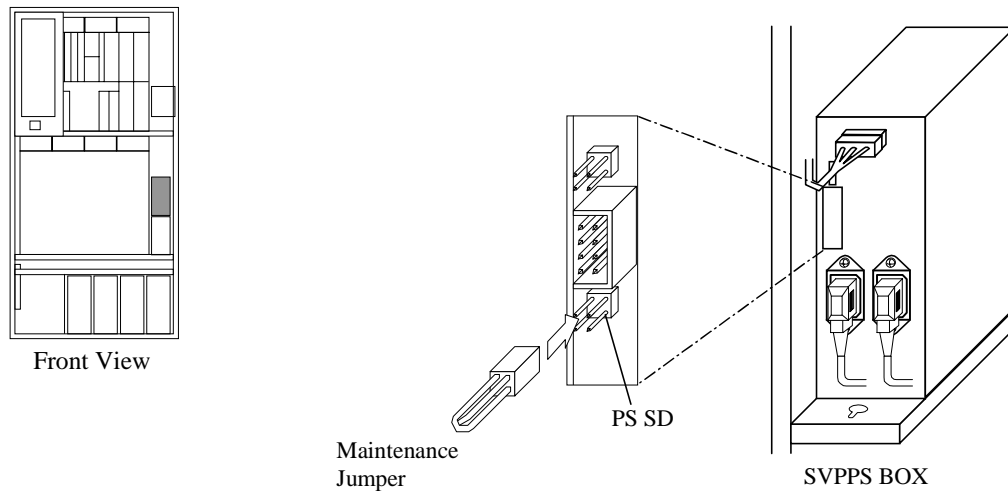

Fig. 4.9-3 Jumper settings of SVPPS BOX
- a. Remove the maintenance jumper of the PS SD on the SVPPS BOX. (See Fig. 4.9-3.)